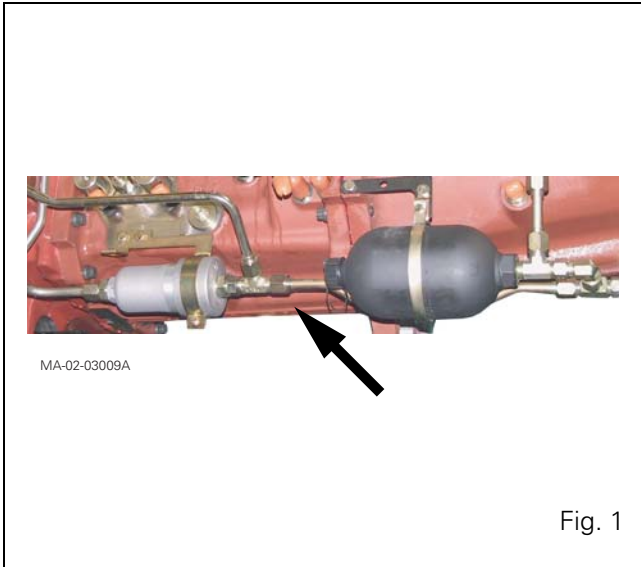

Fig. 1
- the main tube (20 bar) to the gearbox control block (Fig. 1)